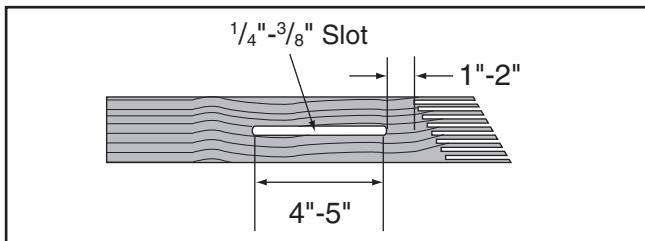

Figure 78. Slot routed in featherboard.
4. Rout a $\frac{1}{4}$ "– $\frac{3}{8}$ " wide slot 4"–5" long in workpiece and 1"–2" from short end of featherboard (see **Figure 78**).